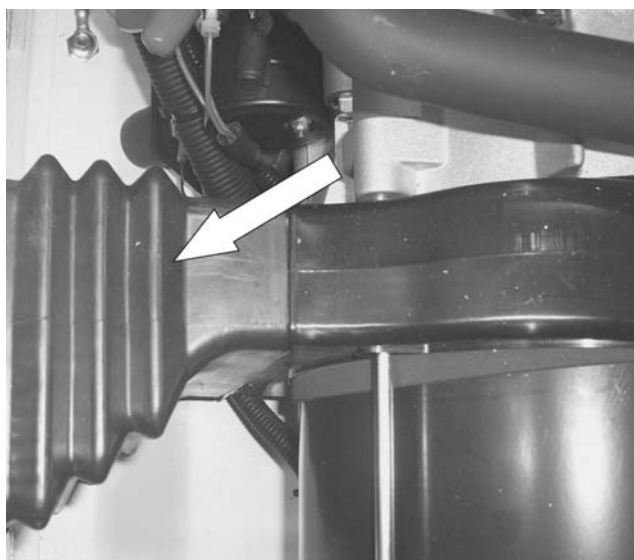

Figure 199.
15. **Alternator Air Intake Bellows Removal:** Remove alternator intake bellows. See Figure 199.